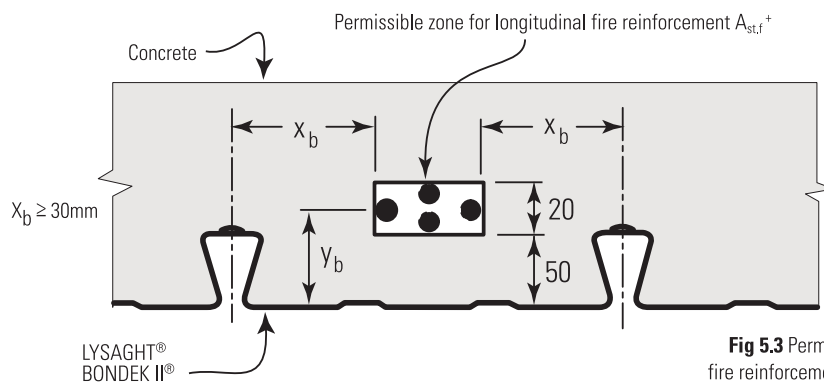

Fig 5.3 Permissible zone for location of longitudinal fire reinforcement on LYSAGHT® BONDEK® II profile
6. Refer to figure 5.3 and 5.4 for the placement of fire reinforcement for additional fire resistance in LYSAGHT® BONDEK® II steel decking profile and LYSAGHT® POWERDEK® steel decking profile respectively.